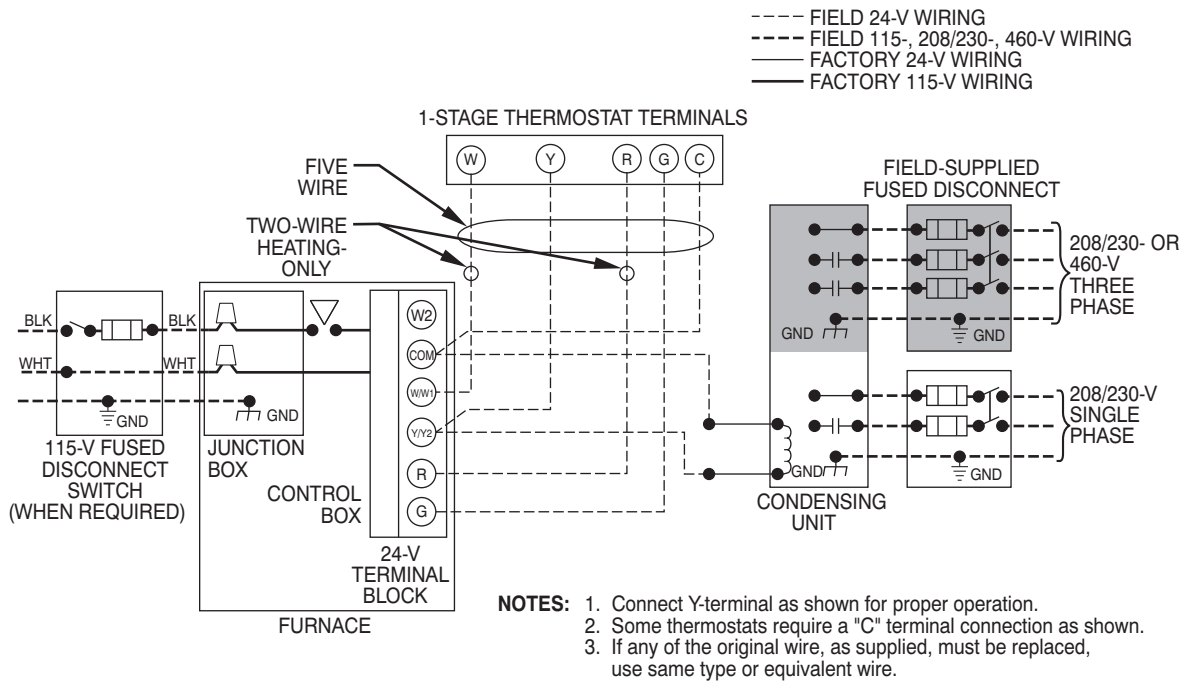
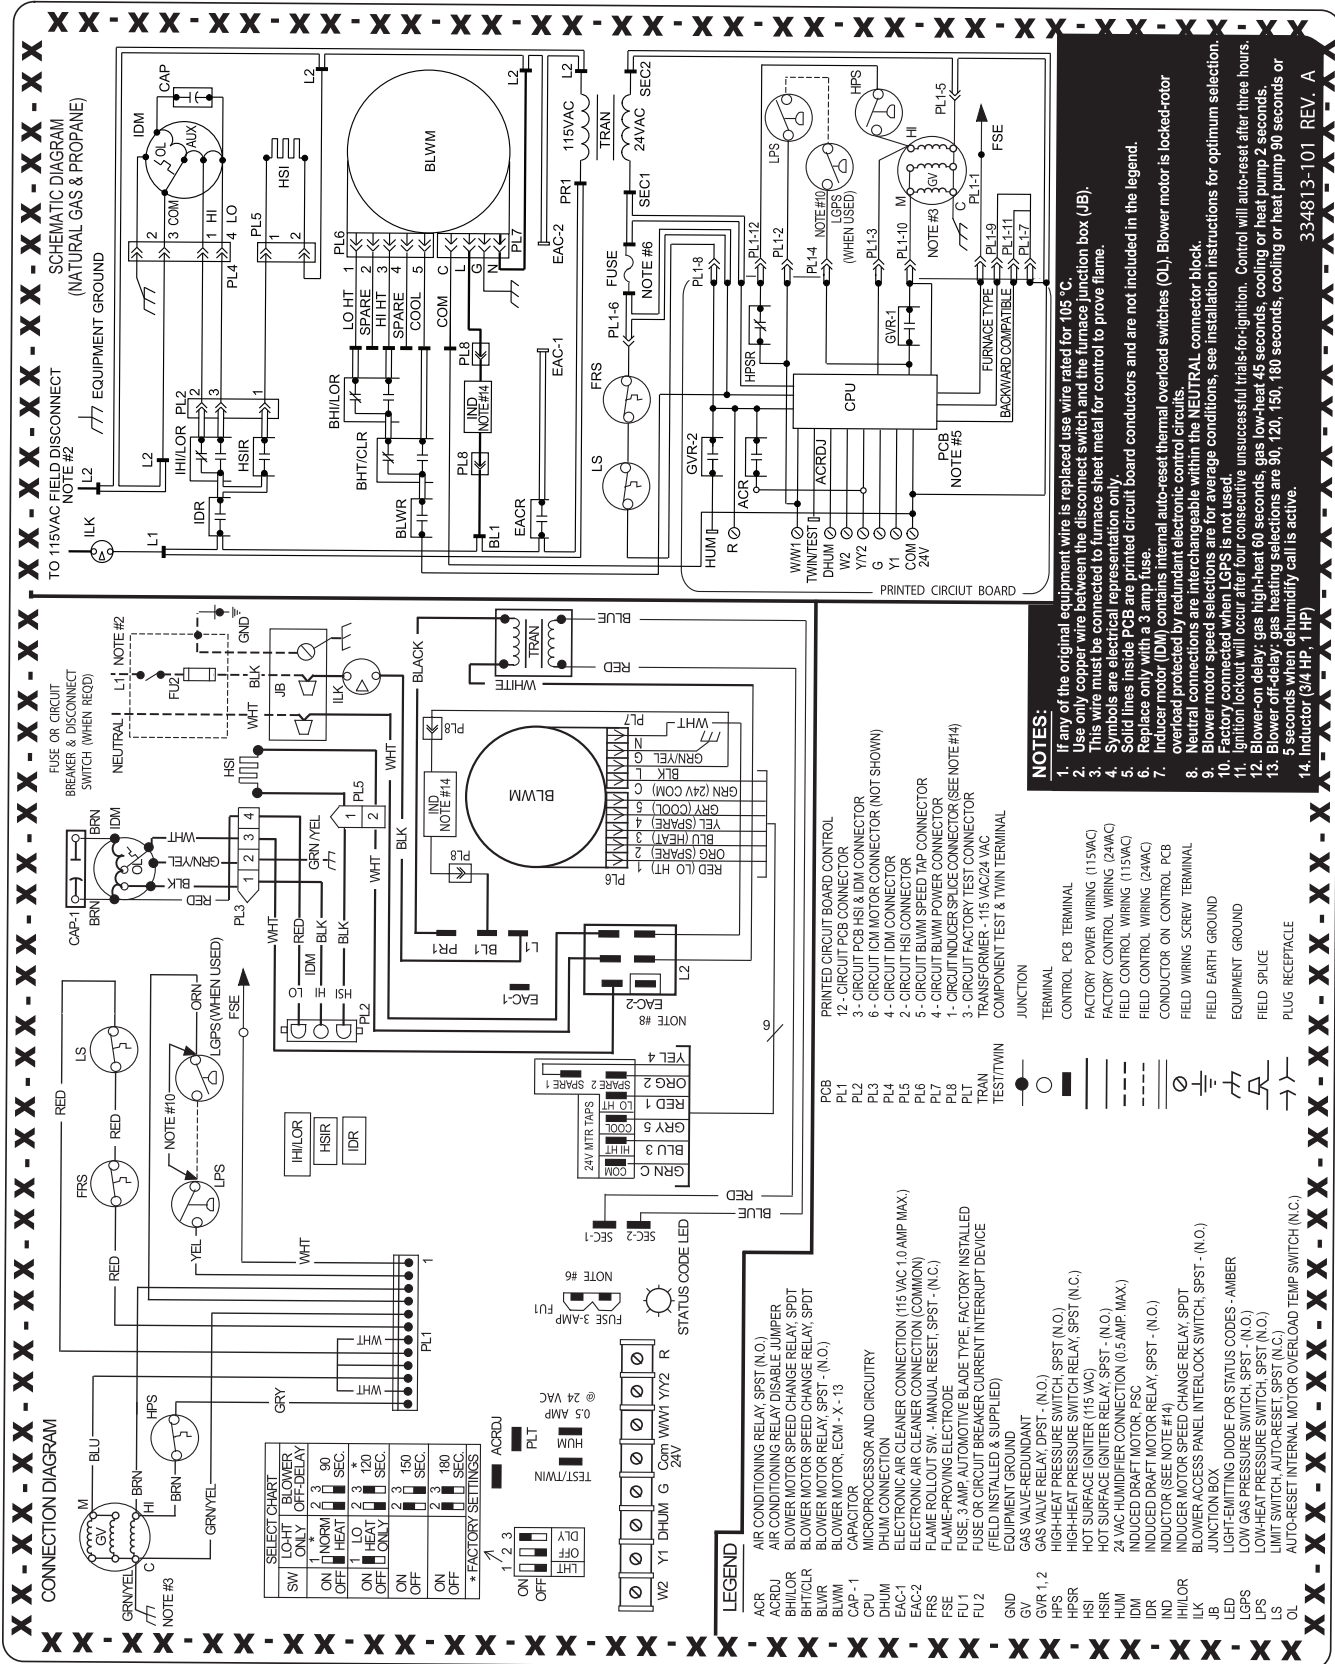

Fig. 31 - Typical Heating and Cooling Application Wiring Diagram 1-Stage Thermostat and Condensing Unit
Fig. 36 - Wiring Diagram
See Fig. 31, 32, and 50-57 for field wiring diagram showing typical field 115-v and 24-v wiring. Check all factory and field electrical connections for tightness.
Make field 24-v connections at 24-v terminal block on furnace. (See Fig. 36.) Connect terminal Y/Y2 as shown in Fig. 31 and 32 for proper cooling operation. Use only AWG No. 18, color-coded, copper thermostat wire for lengths up to 100 ft. For wire lengths over 100 ft, use AWG No. 16 wire.
1. Electronic Air Cleaner (EAC) Two male quick-connect terminals marked EAC-1 and EAC-2 are provided for EAC connection. (See Fig. 36 or 37.) These terminals are energized with 115-v (1.0-amp maximum) during blower motor operation.
2. Humidifier (HUM) Connect an accessory 24 VAC, 0.5 amp maximum humidifier (if used) to the 1/4-in. male quick-connect HUM terminal and COM-24V screw terminal on the control board thermostat strip. The HUM terminal is energized when gas valve is energized. (See Fig. 36 or 37.)